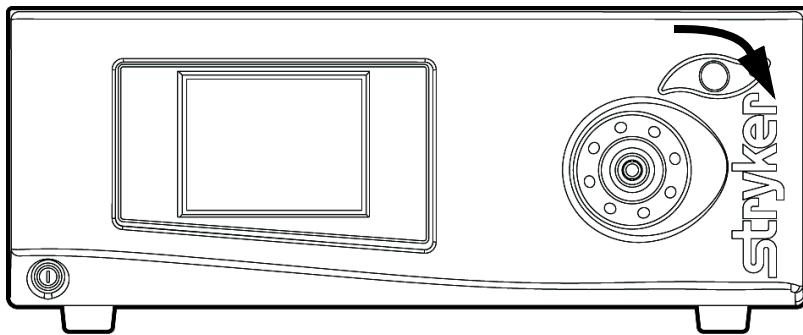

Figure 3 Locking open the cable clamp
1. Lock open the cable clamp by turning the jaw handle clockwise until it stops (see Figure 3).